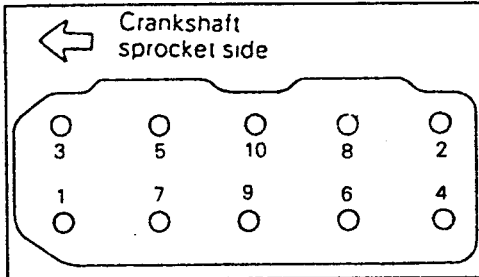

Fig. 15.7. — Sequence for the removal of the cylinder head bolts.
- Referring to Fig. 15.7 remove the cylinder head bolts in the order of the numbered sequence shown. A special Allen key (Part No. MD 998051) must be used to undo the bolts.